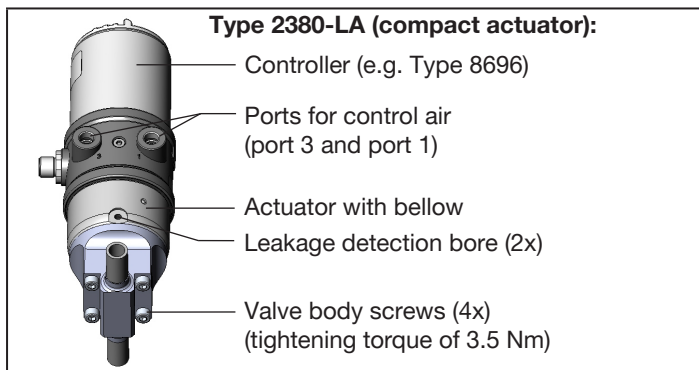
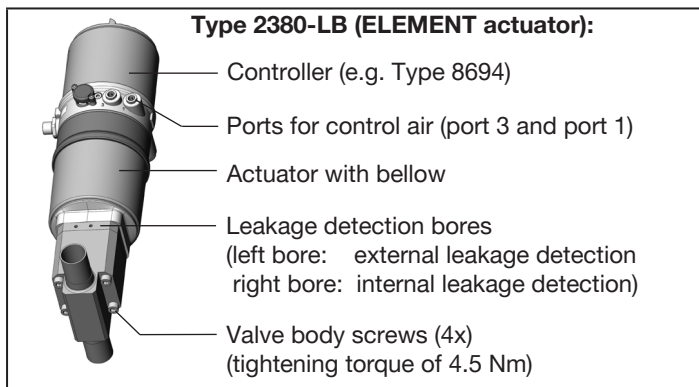

Fig. 10: Installation of welded connections
Fig. 11: Installation of welded connections
- Valves with control function A (NC) should be opened before removal: how to open the valve - see description in chapter „12.5. Replacement of the bellow“ at page 21.
- Remove actuator with bellow by loosening the 4 valve body screws (see - depending on the actuator: „Fig. 10“ or „Fig. 11“) Keep the controller assembled to the actuator.